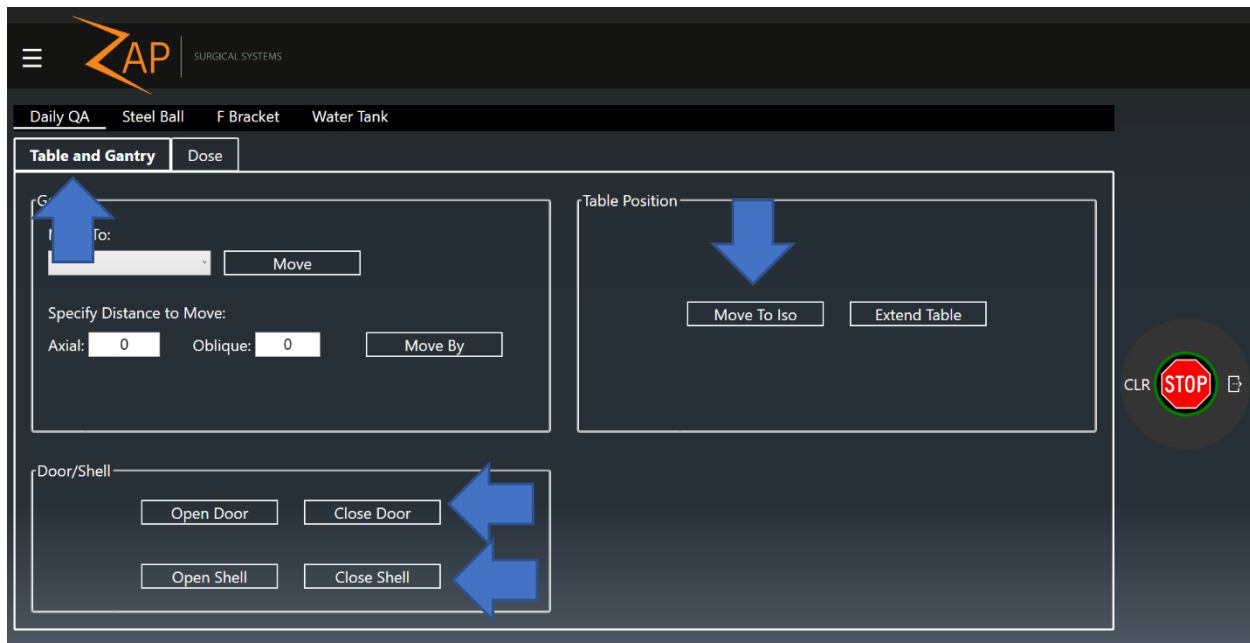

Figure 3-9. Daily QA page, Table and Gantry tab. Arrows highlight buttons to move table into the machine and close the shell and door.
7. Use the Pendant to move the couch to the iso-center position and close the door and shell. Alternatively, click on the **Daily QA** icon on the Dashboard (see Figure 3-8), then click on the **Daily QA** page and the **Table and Gantry** tab (see Figure 3-9). Click on the **Move to Iso**, **Close Door** and **Close Shell** buttons.